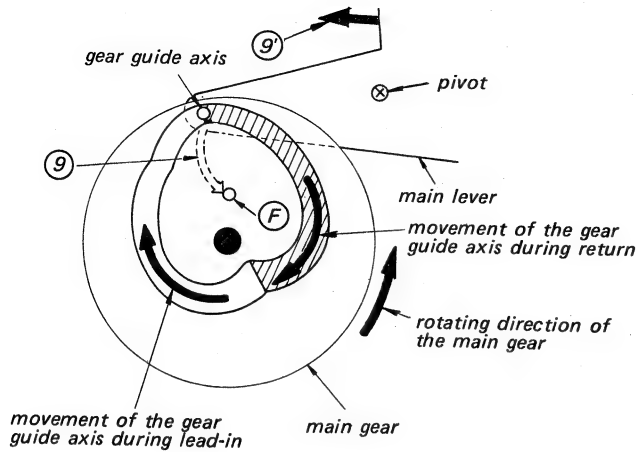

Fig. 3-7.
3. Once the revolving center gear engages the sub-gear (L), the main gear will commence to rotate in the counterclockwise direction due to the driving force supplied by the motor. It will stop again in the position shown in Fig. 3-7.
3. While the record is being played, the main gear and main lever are in the positions as shown in Fig. 3-7.
5. The gear guide axis at the tip of the main lever is moved across to position ⑥ by following the curved path ⑨ due to the guiding action of the shaded portion of the groove in the heart-shaped cam positioned on the main gear. The main lever consequently moves across in the direction of the arrow ⑨ (see Fig. 3-7).